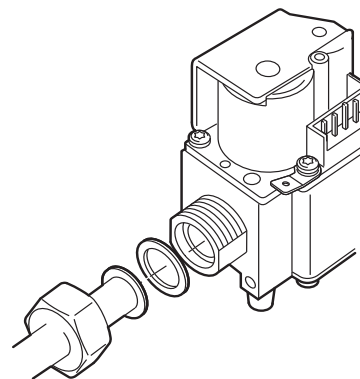

Fig. 6. External thread connection with nut and flat sealing ring
- 3 With 3/4" nut and olive (see fig. 6.)